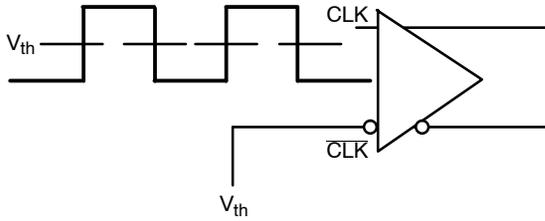

Figure 5. Differential Input Driven Single-Ended ( $V_{th} = V_{REFAC}$ )
**DIFFERENTIAL INPUT DRIVEN SINGLE-ENDED** (Figures 5 and 7)